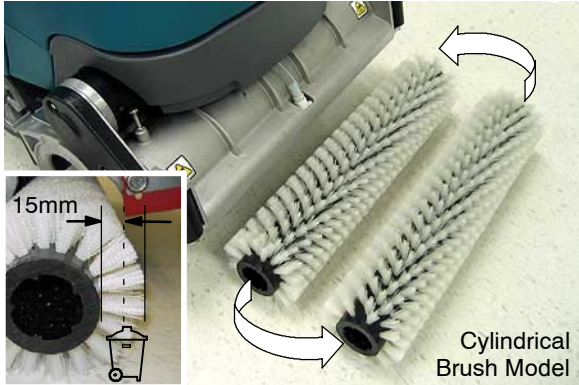

FIG. 63
7. Inspect the cylindrical brushes for wear. Rotate brushes from front-to-rear every 50 hours (Figure 63). Replace when worn to a length of $5/8$ in / 15 mm.